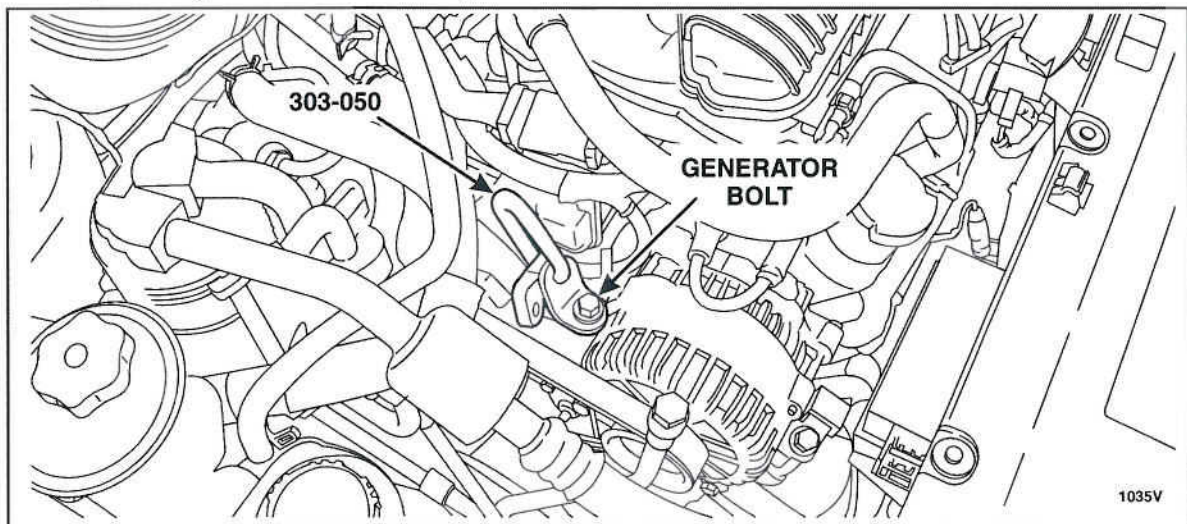

FIGURE 6
12. Remove the LH upper generator bolt and install the Engine Lifting Bracket special tool 303-050, using the previously removed bolt. See Figure 6.